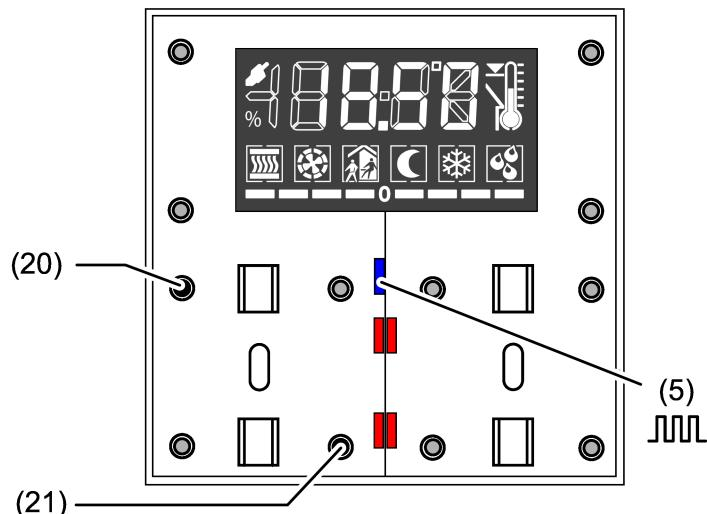

Figure 5: Activating programming mode
- Activate programming mode: press and hold button (20) (see figure 5). Then press button (21).
- Press and hold down the top left and bottom right button (see figure 5).
- Press and hold down the push-button (20) (see figure 5). Then press the push-button (21) for longer than 5 seconds until the operation LED flashes quickly (approx. 4 Hz).